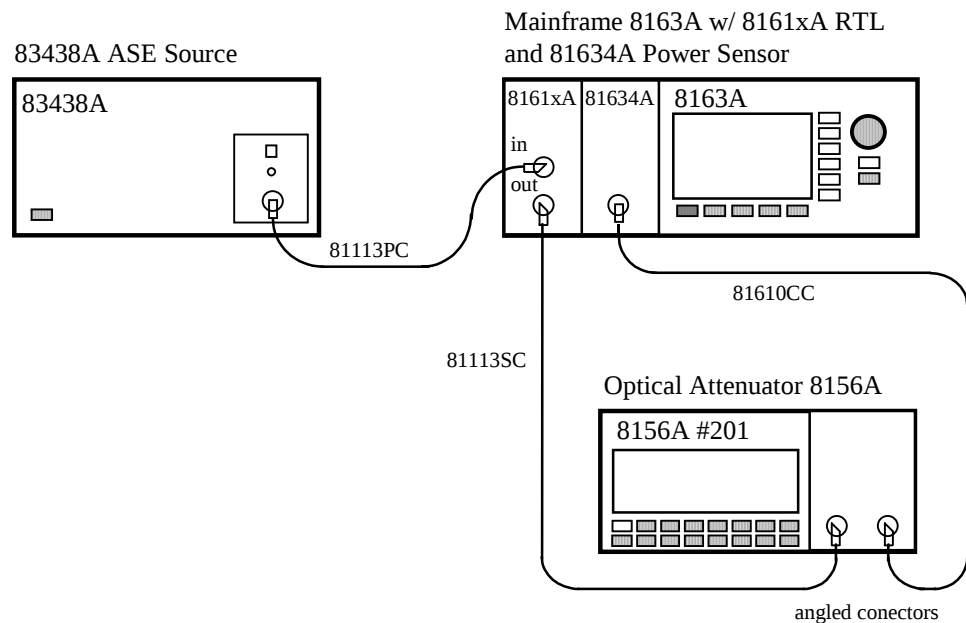

Figure 38 Relative Uncertainty of Return Loss - Performance Test Setup
- 9 Setup the equipment as shown in Figure 38. Use an optical attenuator with angled connectors, and connect the angled connector of the 81610CC Reference Cable to the output of the attenuator.